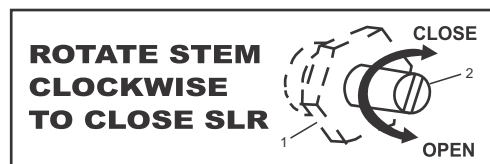

Figure 7: SLR setting for only SLR and SLR+TV configuration
- i) After flushing of lines is complete, ensure stop by-pass valve (6) closed and stop valve (2) opened.
6.3 Setting of steam lock release (SLR) : (Refer to Figure 7)